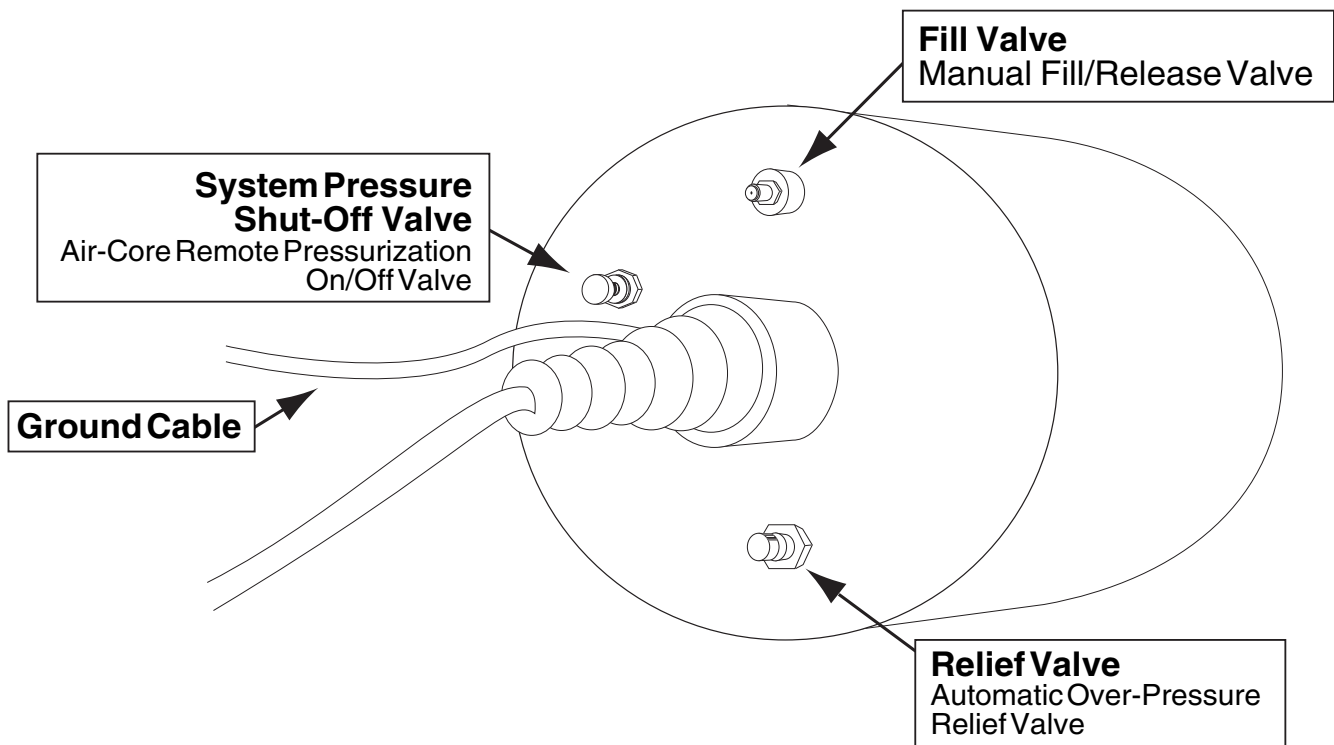

Figure 8. Release Pressure Before Removing Clamp
5. Fully depress the needle in fill valve for at least 30 seconds and be certain all pressure is released. See Figure 8.